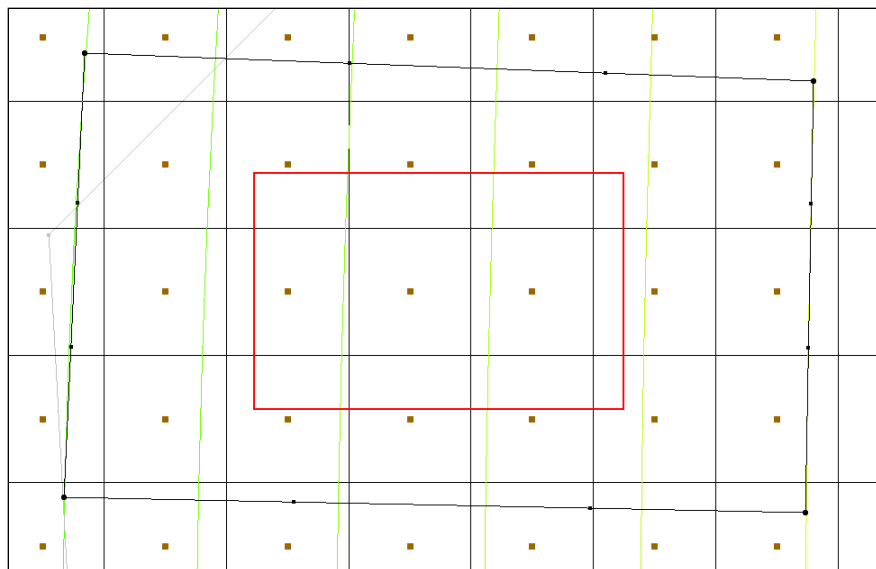

Figure 4 Boundary arcs to be created
3. Using the **Create Arc**  tool, create four arcs: two parallel to the contours and two perpendicular to them, as shown in Figure 4. Double-click on each corner to finish each arc.